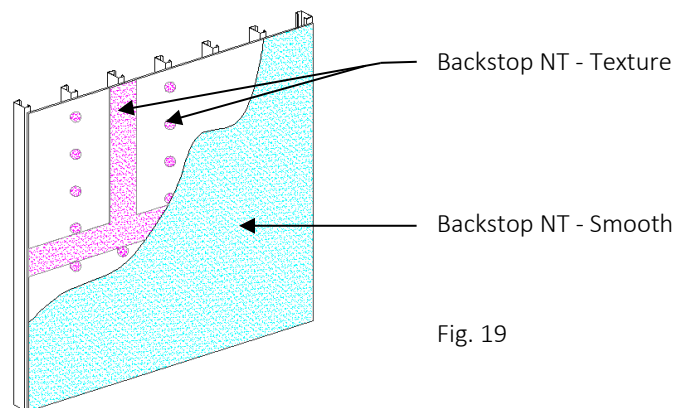

Fig. 19
- a. General: Dryvit Backstop NT - Smooth can be applied using a roller or sprayed and back-rolled over the acceptable sheathing substrates. **NOTE: OSB sheathing requires that joints and fasteners be treated with Backstop NT - Texture. A minimum of two (2) coats of Backstop NT - Smooth are required for the field of the wall. Backstop NT - Texture is not recommended for application in the field of the board.**
- 2) Backstop NT - Smooth material should be applied in a uniform, continuous film at the recommended coverage rate Figure 19. **NOTE: Sheathing substrates with a surface texture or high porosity will require additional material.**